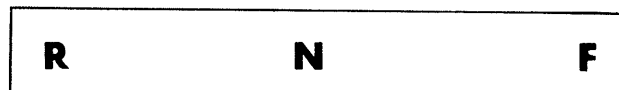

FIG. 8) Shift Lever
The gear shift lever has three positions. FORWARD, NEUTRAL AND REVERSE. The right foot pedal must be completely depressed before shifting gears. (See Fig. 8)
2. With the speed control lever still in the "Park" position move the gear shift lever into either the Forward or Reverse position. (See Fig. 8)